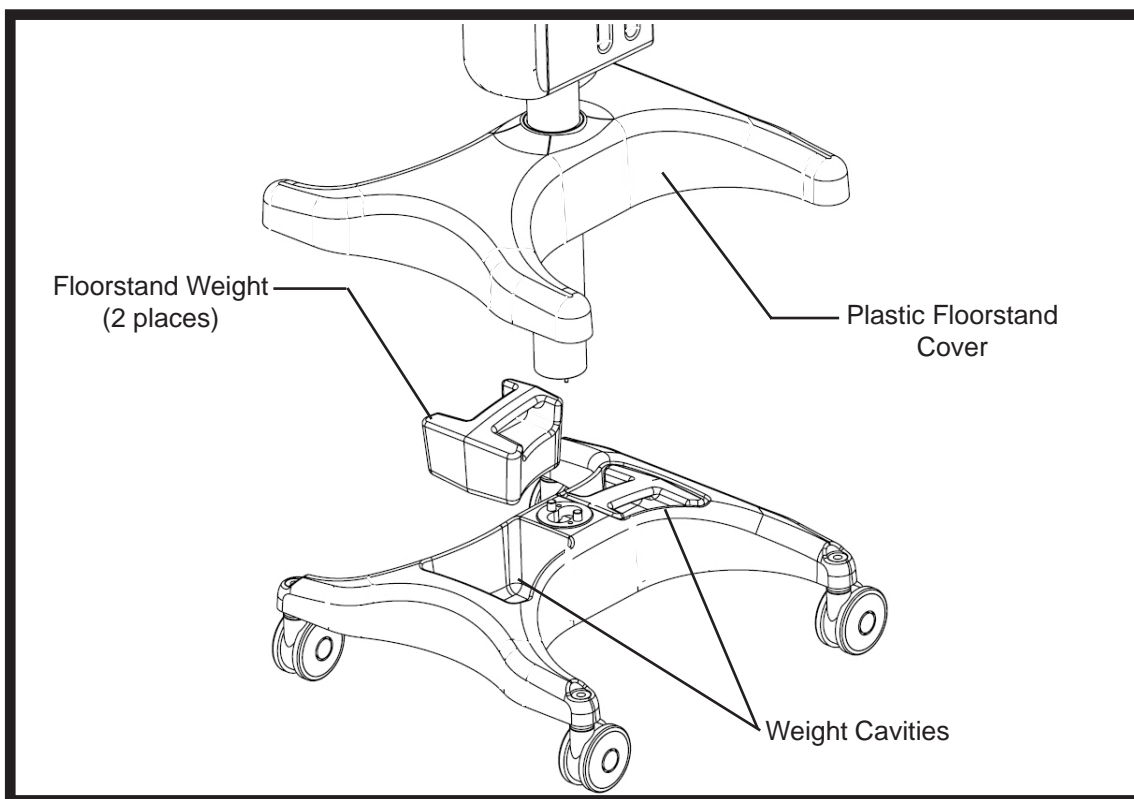

Figure 5-2. Installation of Weights in Floorstand Base
1. Slide the plastic Floorstand Cover up the column. See Figure 5-2.
2. Set the two (2) 27 pound (12.3 kg) weights into their appropriate cavities in the Floorstand Base.